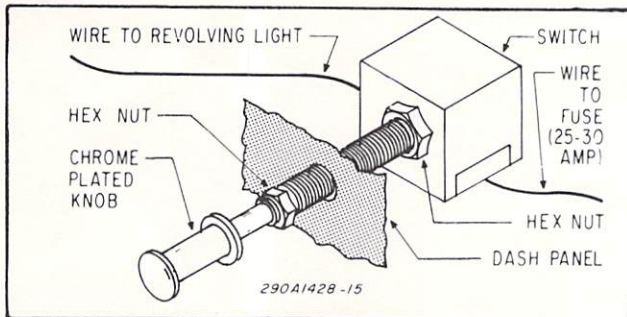

Figure 1.
3. Mount the switch using the hard-ware supplied, as shown in figure 1.